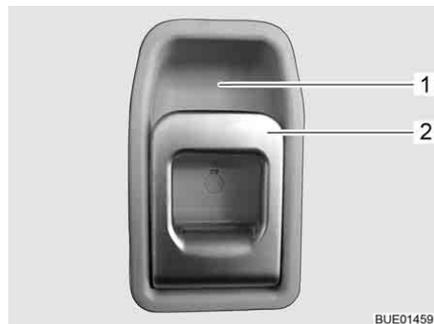

Fig. 32 Door lock of conversion door, inside
- Pull on the handle (Fig. 32,2). The door lock is unlatched.
- Press the upper part of the handle (Fig. 32,2) in the direction of the recessed handle (Fig. 32,1).